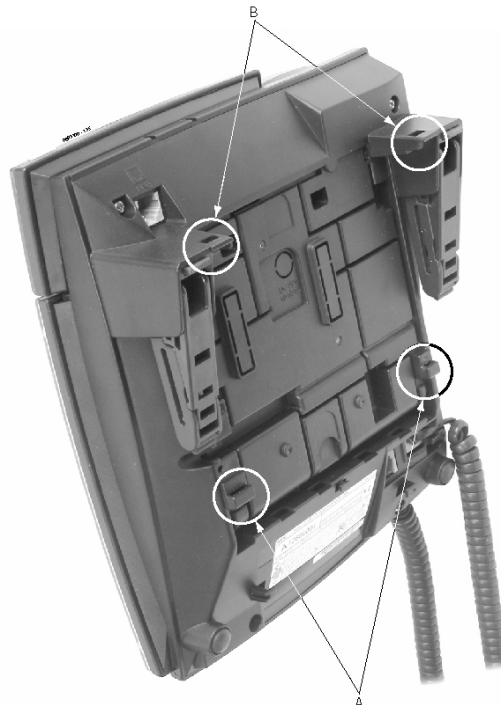

Figure 4-48: BRACKET HOOKS
2. Attach the phone to the wall-mount bracket by inserting the bottom hooks (indicated by “A” in Figure 4-48 *BRACKET HOOKS* on page 4-41) on the bracket into the back of the phone (Figure 4-50).